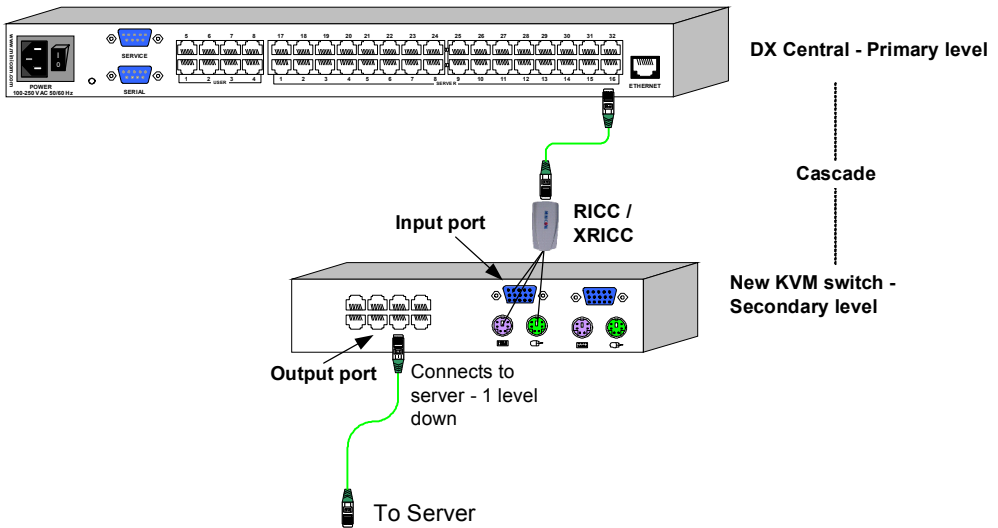

Figure 37 Input and output ports
3. Select the number of input and output ports in the Legacy switch. Figure 37 below illustrates input and output ports. The input ports connect to a RICC or XRICC and the output ports connect to the servers.
2. Change the number of input/output ports (see Figure 37), check or uncheck Typematic as necessary and click **Save**.